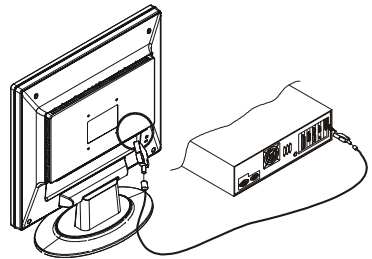

Figure 1-5
2. Connect one end of the signal cable to the LCD Monitor's VGA port.(See Fig 1-5)